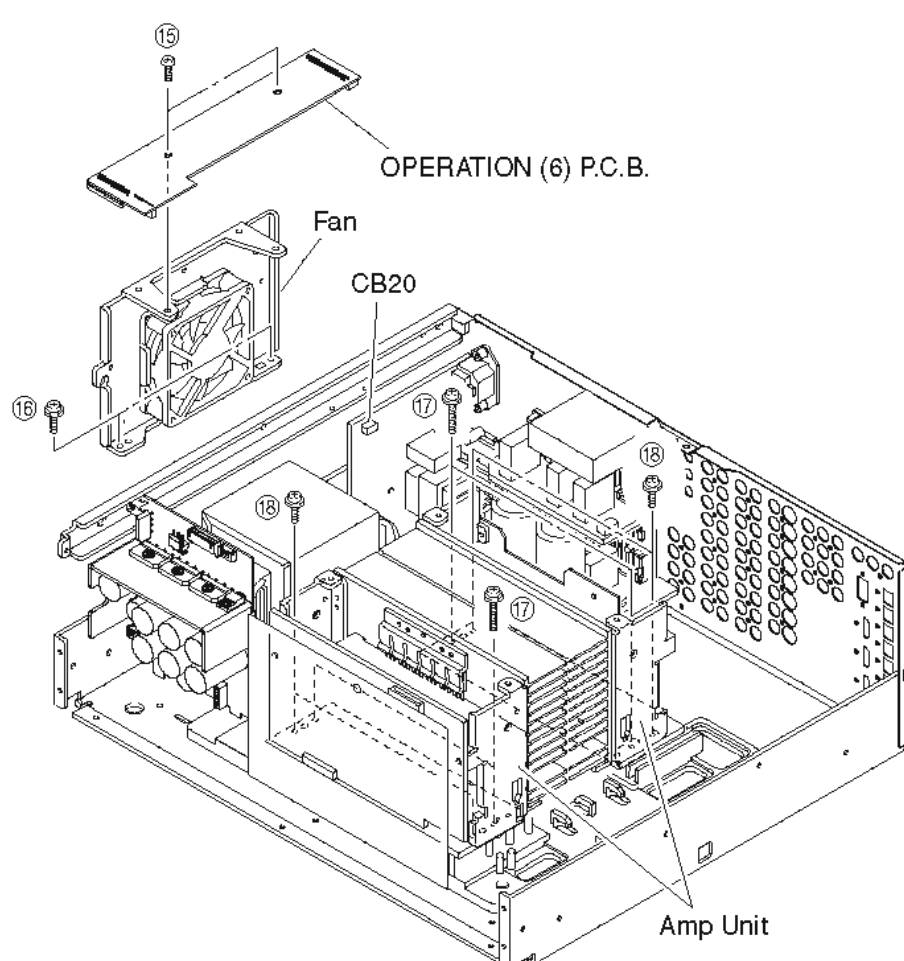

Fig. 6
**6. Removal of OPERATION (6) P.C.B.**
- a. Remove 2 screws (15). (Fig. 6)
- b. Remove the OPERATION (6) P.C.B. which is connected directly to the lower P.C.B. with connectors. (Fig. 6)
- a. Remove CB20. (Fig. 6)
- b. Remove 2 screws (16). (Fig. 6)
- c. Remove the Fan together with the frame by lifting them up. (Fig. 6)
- a. Remove 4 screws (17) and 4 screws (18). (Fig. 6)
- b. Remove the Amp Unit. (Fig. 6)
- DSP P.C.B. CB2 – INPUT (6) P.C.B. CB909: